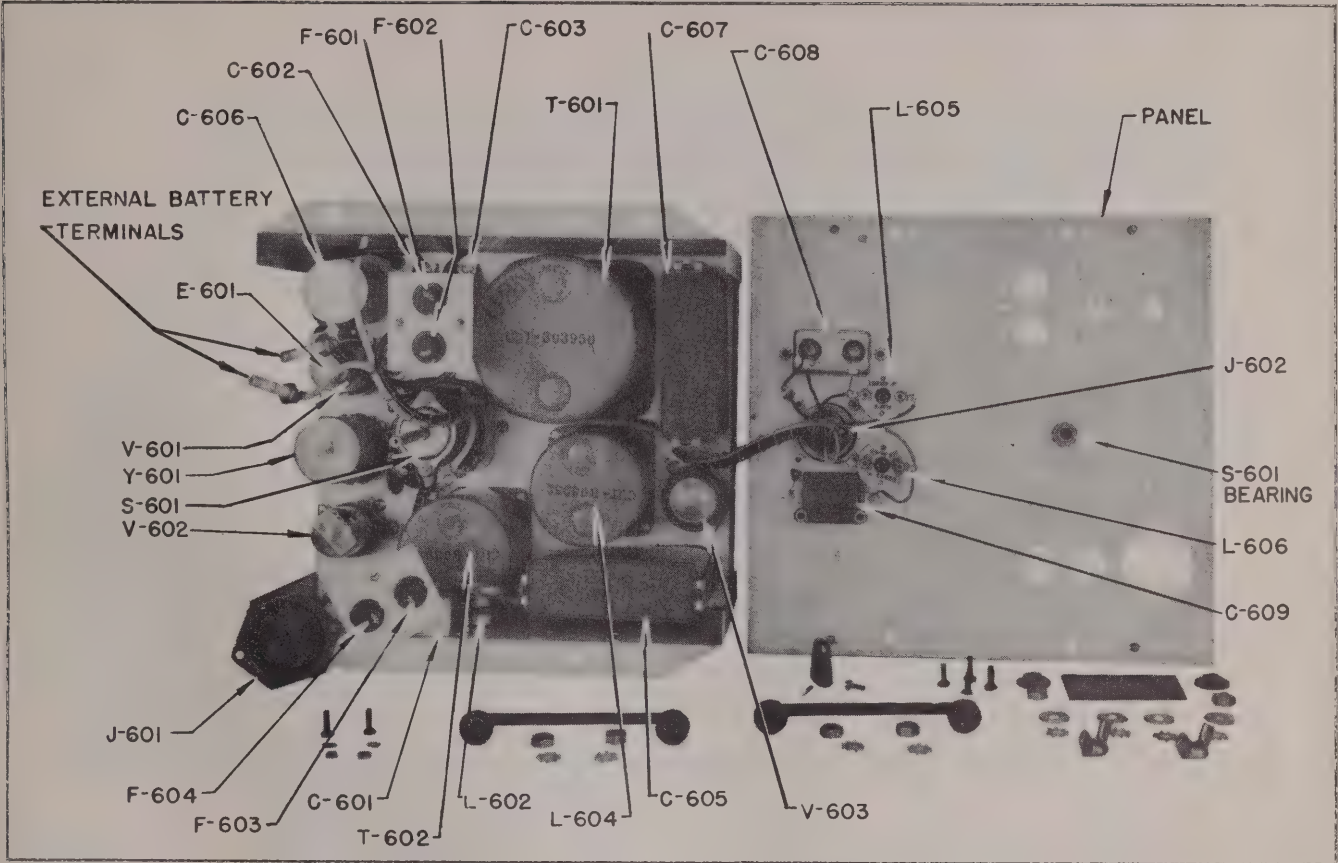

Figure 7-8. Power Supply PP-287/U, Panel Folded Back
(1) POWER SUPPLY. (See figure 7-8.)—Replacement of parts in this unit, except for tubes, requires the removal of the panel and the plate covering the bottom of the chassis. The panel is arranged so that after the panel mounting screws, power switch knob, 115 V. receptacle, 6 V. external battery board, and the fuse boards are detached from the panel, it may be moved out of the way without disconnecting the output receptacle cable.